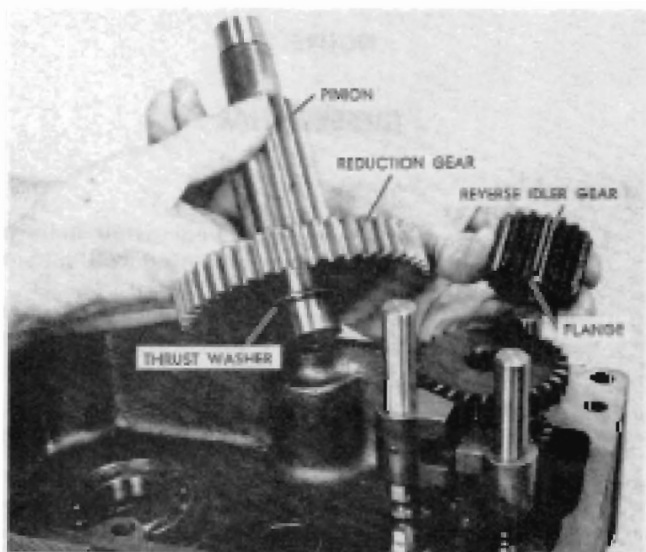

FIGURE 17
6. Install the reverse idler and the large pinion and reduction gear assembly (and the thrust washer if used), as shown in Figure 17, making sure that the flanged end on the reverse idler goes down.